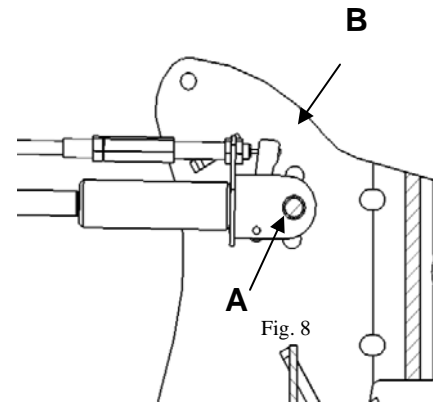

Fig. 8
- a. To gain uplift force, move the strut to a lower hole position (A) as shown in Figure 8.
- b. To generate less uplift force, move the strut to a higher hole position (B) as shown in Figure 8.